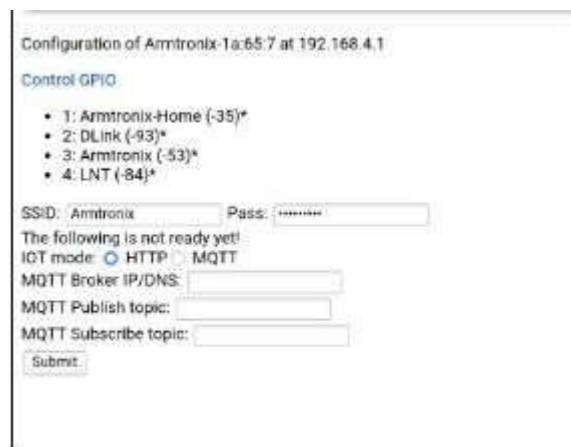

Figure 29: Web server
7. After connecting, open browser and enter 192.168.4.1 IP address, it will open the web server as shown in the Figure 29,